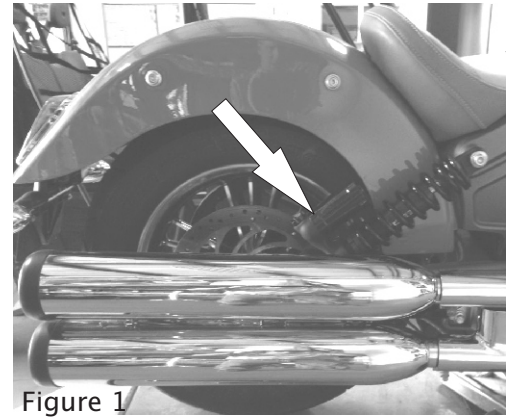

Figure 1
3. Though the 970 Series shocks will work with the reservoirs in any position, on Scout models with OE mufflers, the reservoirs must be at the bottom facing rearward (as in Figure 1) to avoid contact with the top muffler. It is crucial that the proper sleeves and mounting hardware be used at each of the four mounting points - and don't forget to apply a thread-locking agent on each of the shock bolts. On the top mounts, both left & right, install the shouldered sleeves into the bushings, and install as shown in Figure 2 with the OE flat washer between the shock and frame. On the bottom mounts, both left & right, install the straight sleeves into the bushings and install as shown in Figure 3. Tighten all shock bolts per the torque specification in your factory authorized service manual.